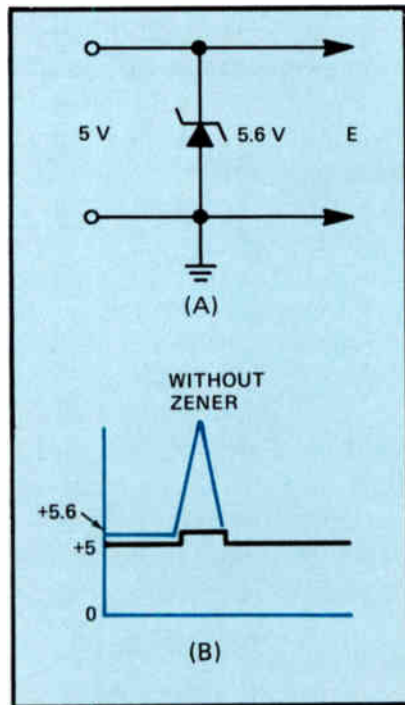

Figure 32. (A) A zener diode for overvoltage protection, and (B) how the zener clamps overvoltage conditions.
The zener diode is an extremely fast-acting device; even transient overvoltage conditions will be detected. If some high-amplitude, short-duration, power line transient should pass through the supply and appear on the output line, the zener diode will conduct momentarily and clamp that overload condition to 5.6 volts. Figure 32(B) shows such a condition. A zener diode connected in this way provides excellent and inexpensive protection from momentary overload conditions.
A simple circuit for protection against momentary voltage overloads is shown in Fig.32(A). Here we have a 5 volt power supply with a 5.6 volt zener diode connected across it. As long as the power supply voltage remains 5 volts, the 5.6 volt zener diode connected across it will not conduct in its reverse direction.